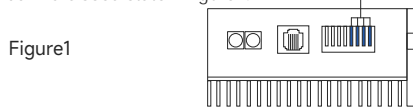

Figure1
- Built-in potentiometer RV speed regulation: Rotate the built-in speed regulation potentiometer RV clockwise, and the motor starts to run-Figure 1
- RS485 speed control: the role of SW5-SW8 in the DIP switch is to set the slave address, the setting method - Figure 1. Please refer to the product detailed manual.